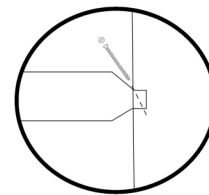

figure 6
Secure doweled joints in place with screws perpendicular to the doweled ends as shown in figure 4 and circled example in figure 6. Repeat procedure for other side.
STEP 6 Set unit on a level surface and tighten down all lag screws firmly to secure unit. Secure all dowel joints in place with screws perpendicular to the doweled end as shown in figure 6.